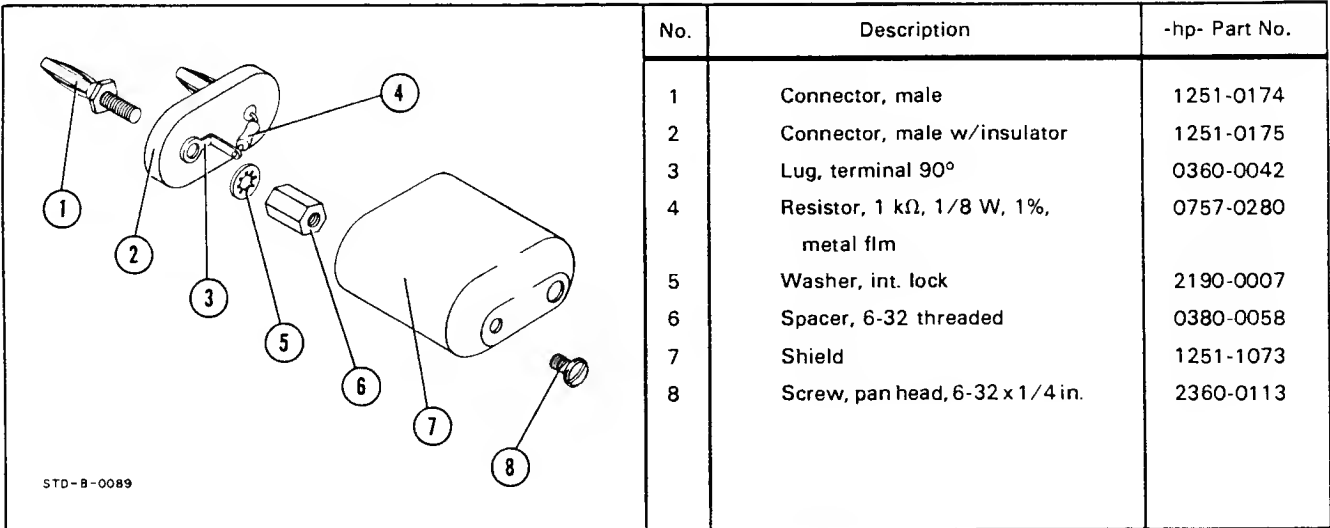

Figure 4-12. Shielded Load Assembly.
1 k Ω shielded load (Refer to Figure 4-12.)
- b. Connect the 1 kΩ shielded load to the DISTORTION ANALYZER input terminals. (See Figure 4-12 for construction details of 1 k Ω load.)